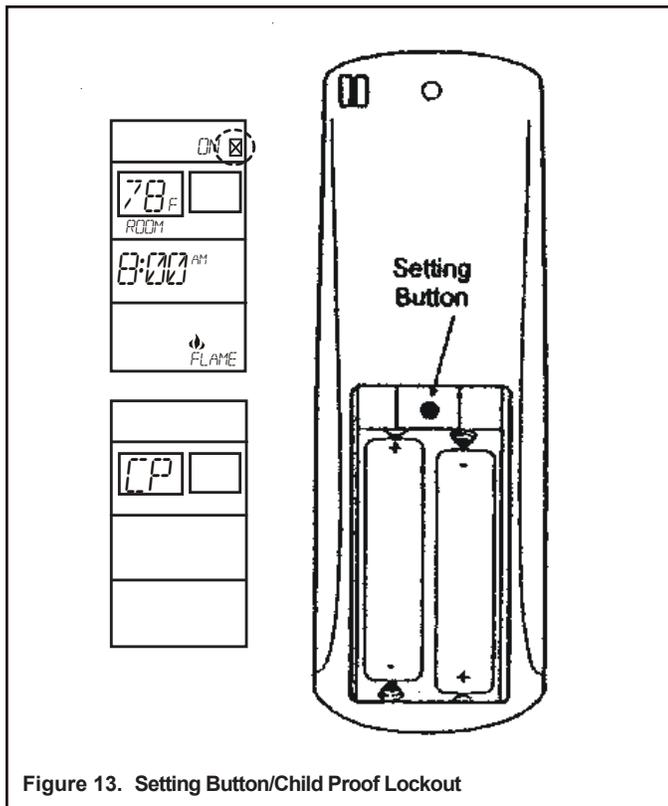

Figure 13. Setting Button/Child Proof Lockout
1. Remove the battery cover on the back of the transmitter and locate the “setting button” at the top center of battery compartment (see Figure 13).
1. Press and hold in the “setting button” for 5 seconds. The letters CP will display on the LCD screen (see Figure 13). This prevents the activation of fireplace. When any function button is pressed ON/OFF etc. the letter CP will display on the LCD screen.